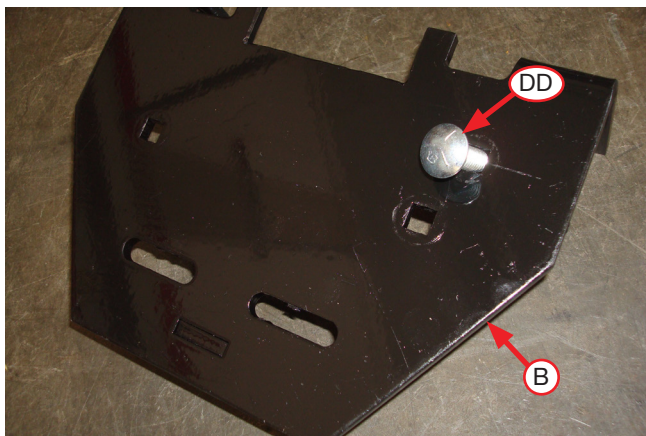
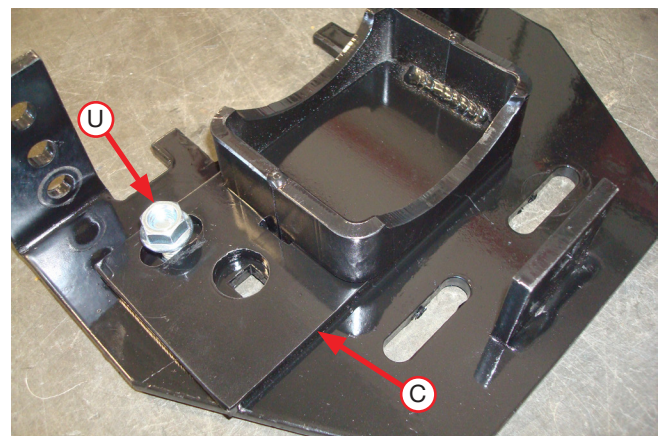

Fig. 10
Fig. 11
- Insert a 3/8"-16 X 1.00" carriage bolt (DD) through the top of the lower bracket (B) as shown in Fig. 10. Flip the assembly over and set the lower bracket cup (C) onto the lower bracket and over the carriage bolt (Fig. 11). Cap with 3/8"-16 serrated flange lock nut (U) and snug the nut only. Leave loose enough for the bracket to move freely in the slot.